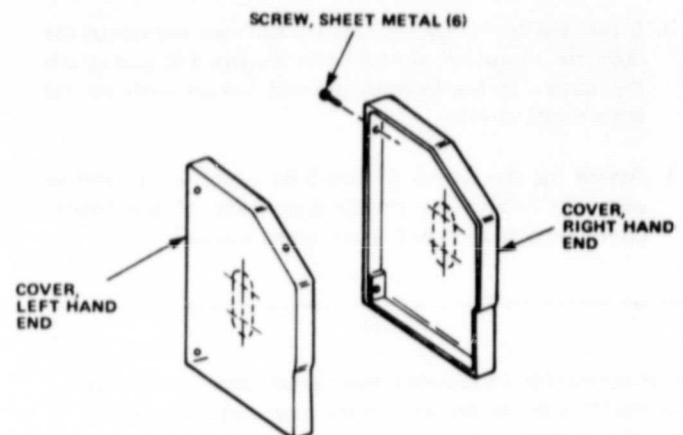

Figure 5-8. Single Row Header End Cap
4. Attach the end covers (Figure 5-8) which were installed with the piping, by positioning inside of the header cover and attaching with sheet metal screws.